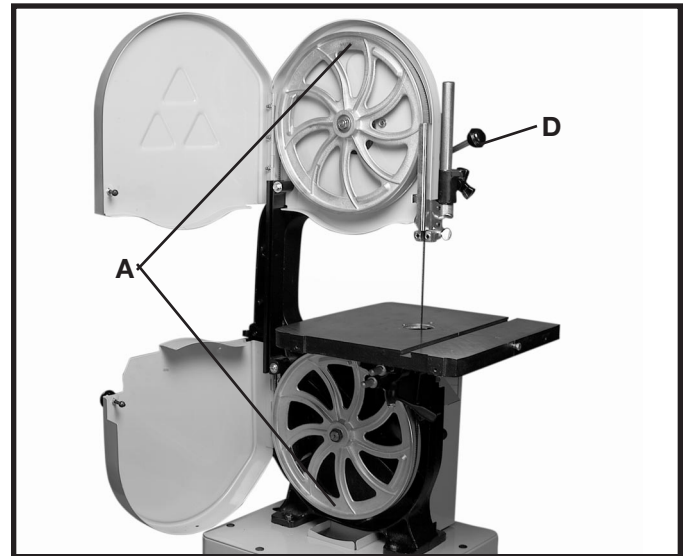

Fig. 32
5. Place the blade around the two wheel assemblies (A) Fig. 32.
8. Move the quick tension lever (D) Fig. 32, to the left position to put tension on the blade as shown.